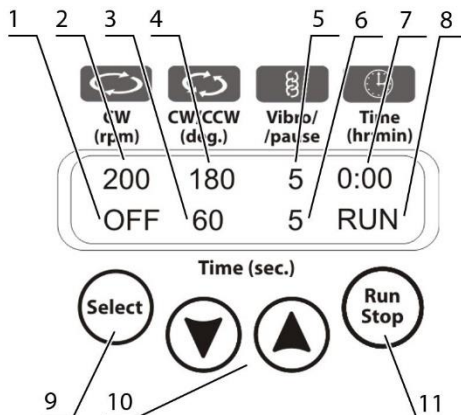

Figure 2. Control panel
- Upper line: rotation speed (fig. 2/2), reciprocation angle (fig. 2/4), vibration angle (fig. 2/5), over-all timer (fig. 2/7);
- Lower line: rotation, reciprocation and vibro timers (fig. 2/1, 2/3 and 2/6), status (STOP, fig. 2/8).
- 5.5. Press the **Run Stop** key (fig. 2/11) to start the program.
- 5.6. The stirrer motion will begin and the corresponding indication, RUN (fig. 2/8) and the changing time values (fig. 2/1, 2/3, 2/6 and 2/7) are be shown on the display.
- 5.7. If the overall operation time is not set and the Time indicator (fig. 2/7) shows 0:00, pressing the **Run Stop** key will start continuous operation of the unit until the Run Stop key is pressed again.
- 5.8. If the operation time is set then the unit will stop after the set time interval elapses. Flashing indication STOP (fig. 2/8) is shown on the display and a repeating sound signal for the end of operation is heard. Press the **Run Stop** key to stop the signal.